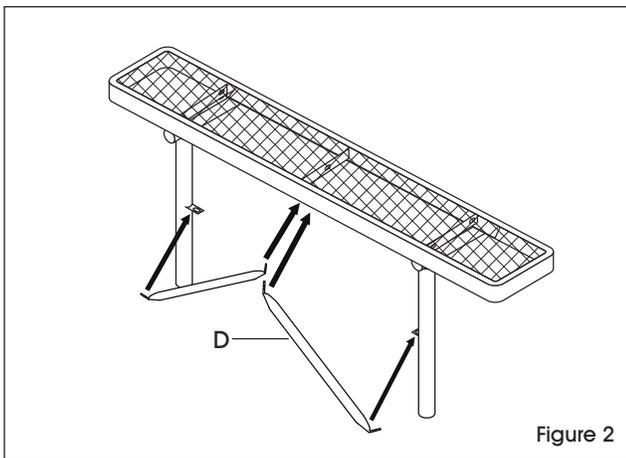

Figure 2
5. Loosely attach the leg braces (D) using one bolt, two washers and one nut in each hole. (See Figure 2)